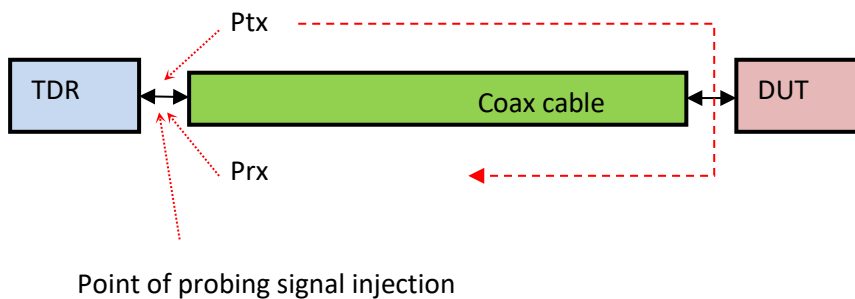
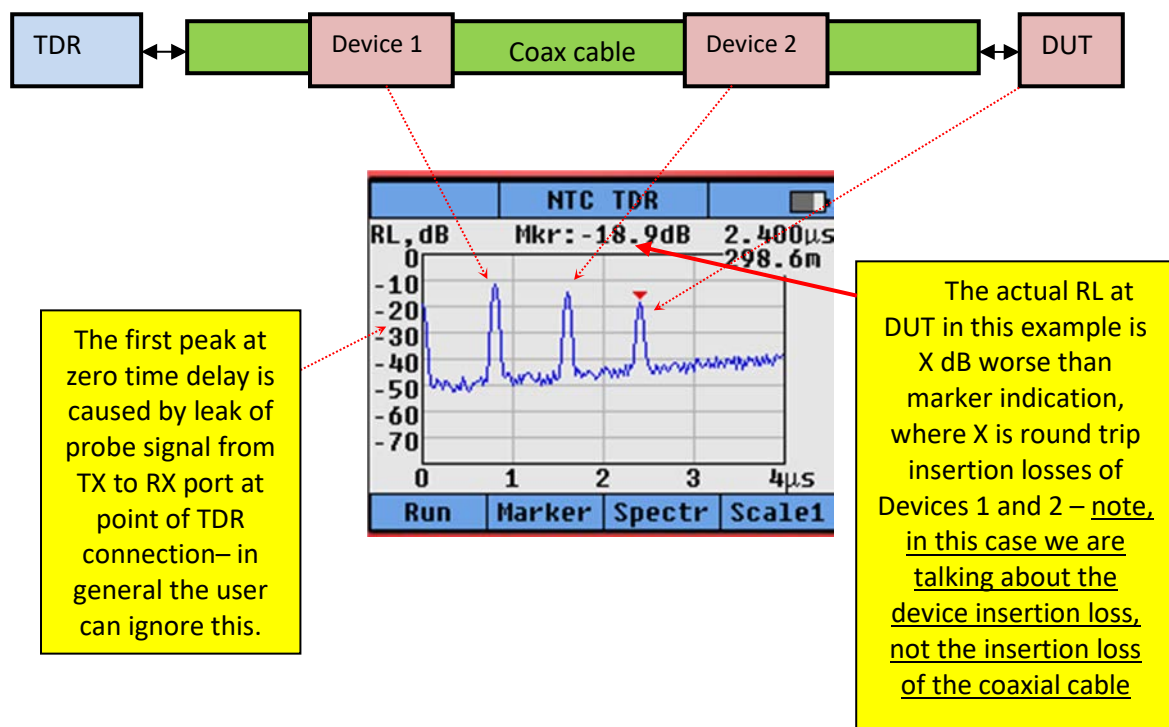

Fig. 1
Fig. 3
The main concept of measuring RL is illustrated below in block diagram Fig. 1. The TDR generates and injects a probe signal with level P_{tx} into coaxial cable in the direction towards the device under test (DUT). The reflected signal from the DUT at the injection point of Tx signal, has level P_{rx} . The Return loss (RL) of the DUT is calculated by using formula:
Block diagram shown on Fig.1 is for the most simplistic scenario of measuring RL. But a more common scenario for coaxial plant in the HFC network is where some number of passives are connected in cascade between the TDR connection point and the DUT. Actually, in this case each passive is a DUT because probe signal will be reflected from each of cascaded passives and the task of the technician is to detect device with worst RL. Below on Fig.3 is shown example of two cascaded passive devices between TDR and DUT and corresponding response of TDR.